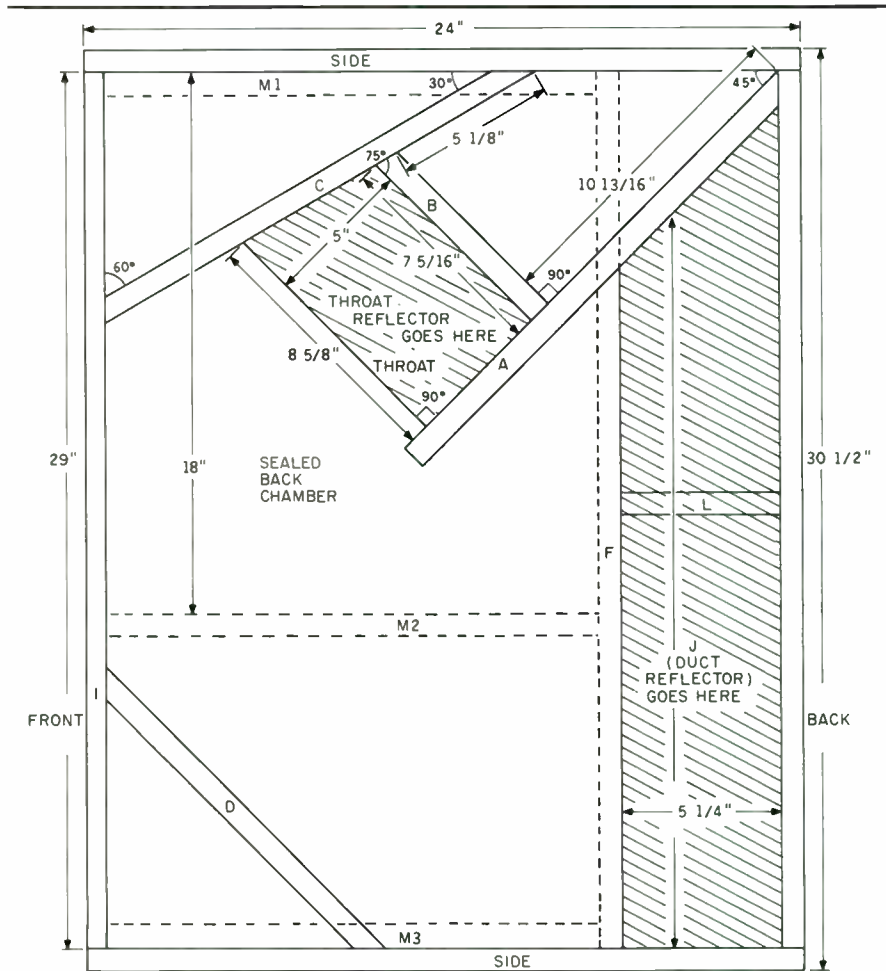
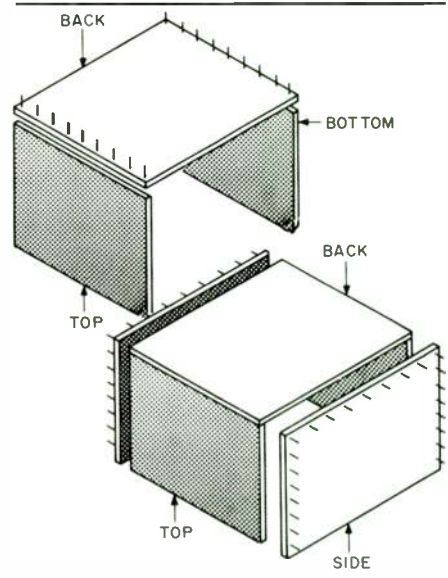

FIGURE 7: Top view of the throat manifold.
FIGURE 10: Attaching the back to the top and bottom, and attaching the sides to complete the box.
**HORN ASSEMBLY.** Using a template based on *Fig. 7*, draw off the alignment lines for parts A, B, C and D on the top piece. Then attach parts A, B, C and D to the underside of the top piece (*Photos 5 and 6*). For this procedure, it helps to have a variety of clamps. Attach the top, bottom, back and side pieces together (*Figs. 10*). Using clamps as demonstrated in *Photo 6*, fit part I in the front. Avoid gaps between the top piece and part I.